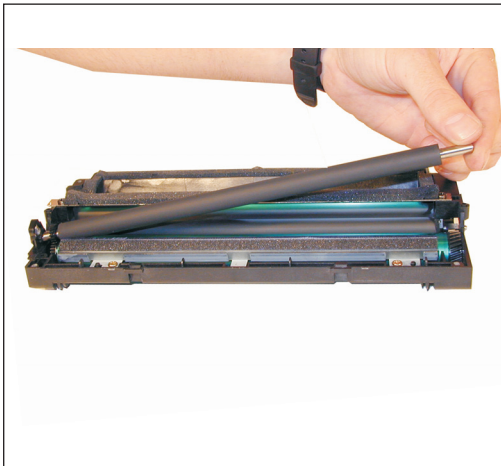

Figure 12
5) Remove the PCR. See Figure 12